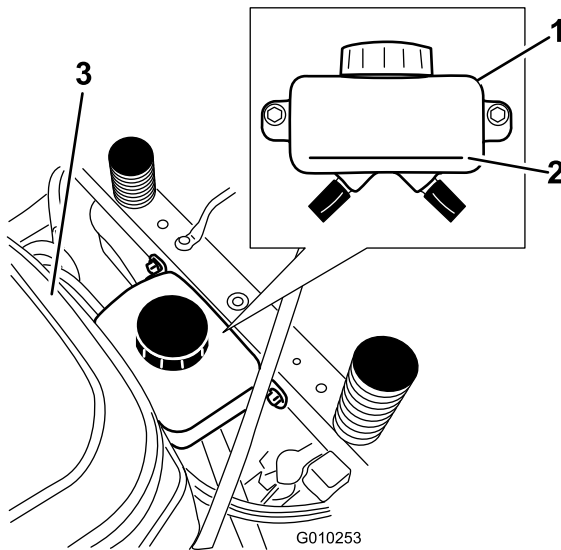
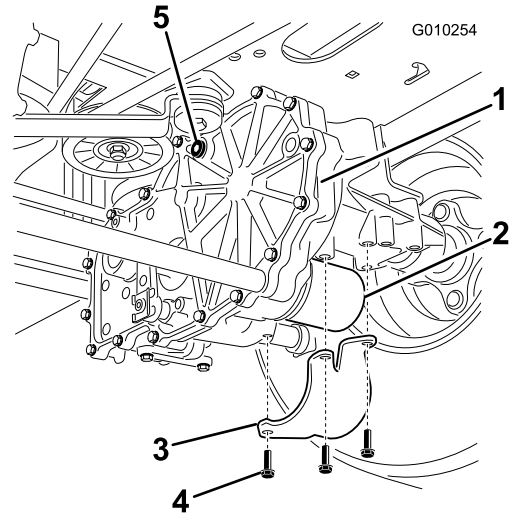

Figure 49
Figure 50
3. Locate the filter and guards on each transaxle drive system (Figure 50).
4. Remove three screws securing the filter guard and remove the guard (Figure 50).
- A. Ensure that the vent plugs and reservoir cap are removed before adding the oil (Figure 49 and Figure 50).
- B. Slowly pour the specified oil through expansion reservoir until oil comes out of **one** of the vent plug holes and stop filling (Figure 50).
- C. Install that vent plug (Figure 50).
- D. Add oil through the expansion reservoir until oil comes out of the remaining vent plug hole on the second transmission and stop filling (Figure 50).
- E. Install that vent plug (Figure 50).
7. Add oil through the expansion reservoir until it reaches the Full Cold line on the expansion reservoir and install the cap for the reservoir (Figure 49).
6. Stop the engine and check the oil level in the expansion reservoir. Add the specified oil as until it reaches the FULL COLD line on the expansion reservoir (Figure 49).
8. Check the oil level in the expansion reservoir one last time. Add the specified oil as until it reaches the FULL COLD line on the expansion reservoir if necessary (Figure 49).